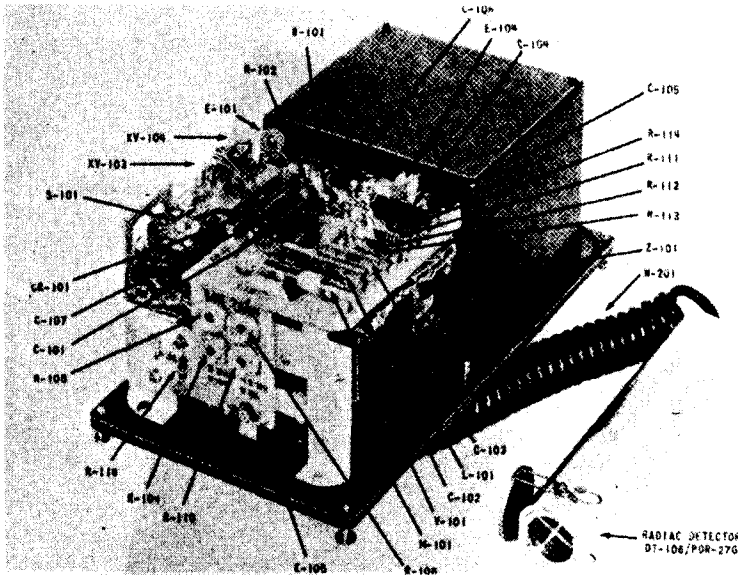

Figure 1-5. **Radiacmeter**, Right Side and Rear
Mounted on the panel are: a four range indicating meter, a range switch, a push button switch assembly for the meter light, and a headset jack. Mounted to the underside of the panel (figures 1-5 and 1-6) are the electronic elements of the equipment including a plug-in unit, **Z-101**, (figure 1-5) containing three subminiature tubes and their associated circuit elements.
c. **RADIAC DETECTOR DT-106/PDR-27G** (See figure 1-5.) – The radiac detector is a probe consisting of a Navy Type BS-1 G-M tube contained in a cylindrical metal housing. At one end, the housing is closed by a threaded ring which secures a packing gland for the connection cable; at the other end a threaded ring secures the body of the G-M tube leaving the mica window exposed. The G-M tube is supported by a rubber gasket at the mica window end and further supported inside the housing by a spring mounting cylinder, 0208. Electrical connection to the tube is made by a kinkproof flexible cable which passes through the waterproof packing gland in the threaded plug at the end of the housing. A spring-retained metal shield covers the mica window of the G-M tube. When the shield is over the window, beta radiations are prevented from entering the tube; the shield may be swung aside when beta-plus-gamma radiations are to be detected. A metal guard is secured directly over the window.